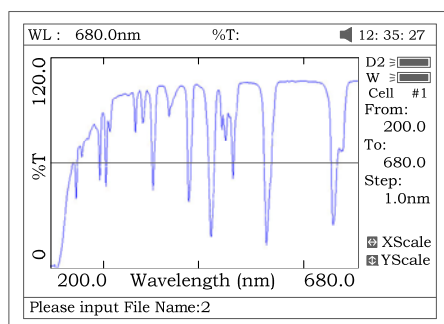

Fig 15
- ◇ Name the curve by pressing the numeric keypad (Fig 15), press the key **[ENTER]** to confirm.
- (1) Pressing numeric key continually to scroll characters and pressing **[^][V]** to alter capital letter to miniscule. Table 2 shows all characters built in.
- (2) If the name already exists in memory, the warning "duplicated name, are you sure? " will appear. "Yes" for overwrite and "No" for Exit.
- (3) The length of filename is less than 4.